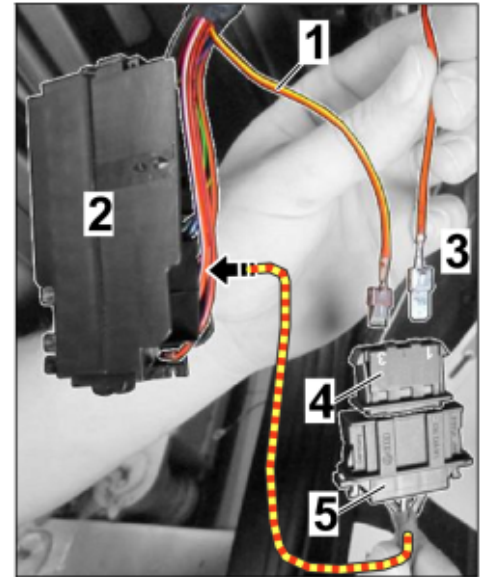

Figure 33
2.6.4 Assign plug socket (3-pin) as follows (⇒ *Figure 33*):
Terminal 15 RD/YE; 1.0 ²	Unpin line (in the vehicle ⇒ Figure 33 -1-) with socket from fuse strip A, chamber 3A ⇒ insert into chamber 1 of plug socket (3-pin)
Terminal 15 RD/YE; 1.0 ²	Line (wire harness for engine noise control unit/pulse sender ⇒ Figure 33 -3-) ⇒ Insert into chamber 3 of plug socket (3-pin)